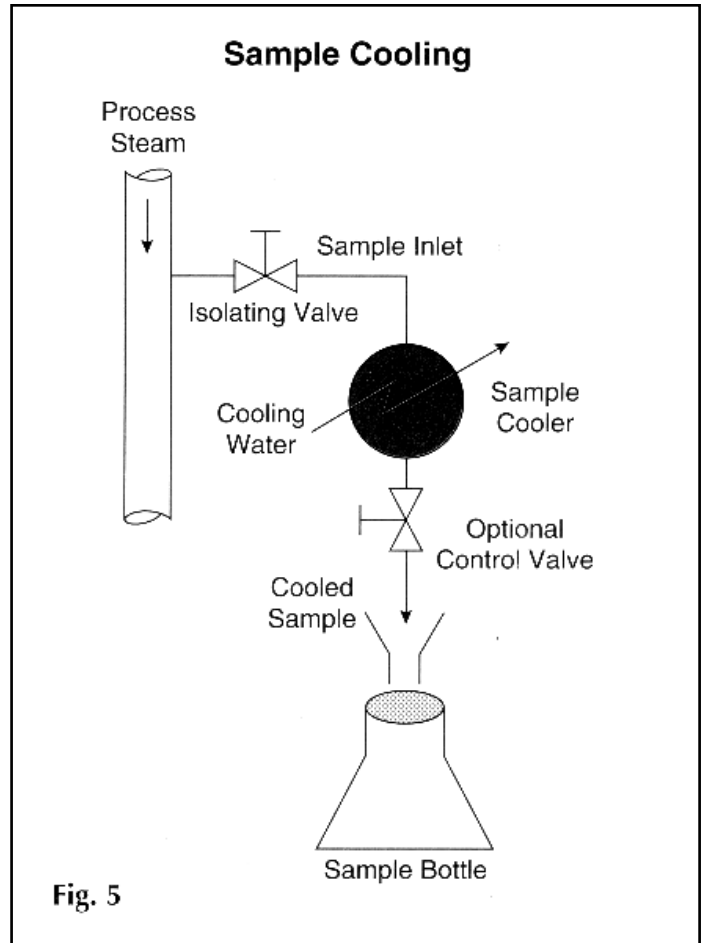

Fig. 5
*Sample Cooling.* Continuous monitoring of process output is necessary to ensure product quality within allowable tolerance. Grab-sample cooling (Fig. 5) is needed prior to transport to lab technicians for analysis, so an inexpensive compact unit is needed to efficiently cool sample streams to desirable levels.
Sample cooling arrangement with isolating valve is used to bleed a sample stream from main process line. (Fig. 5)